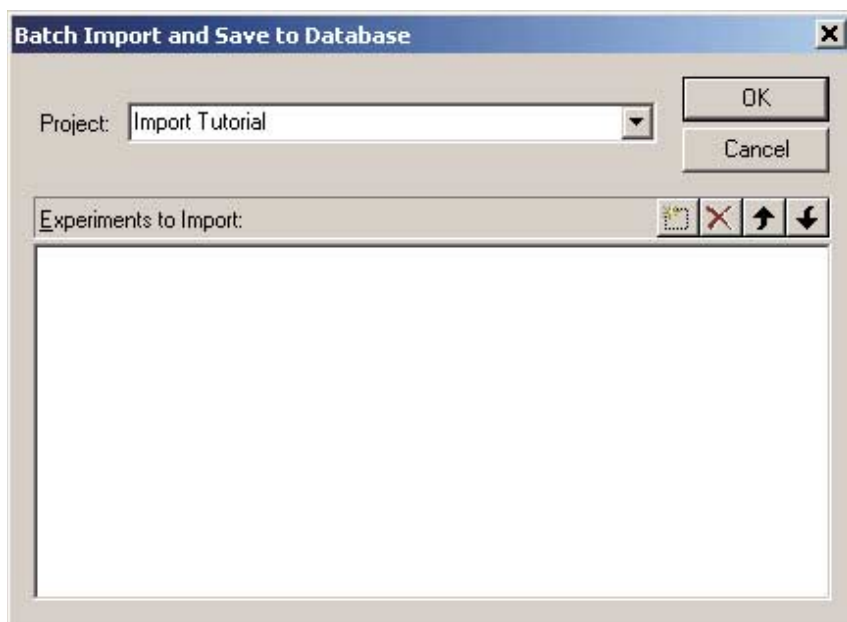

Figure 2-14: The *Batch Import and Save to Database* dialog.
1. Select **Batch...** from the **File | Import** menu to open the **Batch Import and Save to Database** dialog (Figure 2-14).